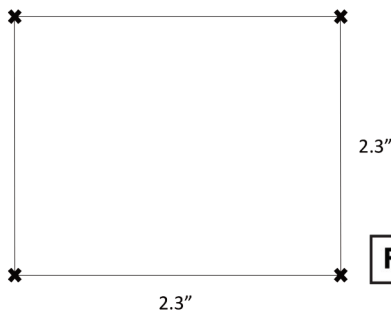

Fig. 1
Locate a secure structural member and inspect it for damage. Secure the top mounting bracket onto the flat surface using four (4) #8 screws. Use the drill pattern figure shown in **Fig. 1**.